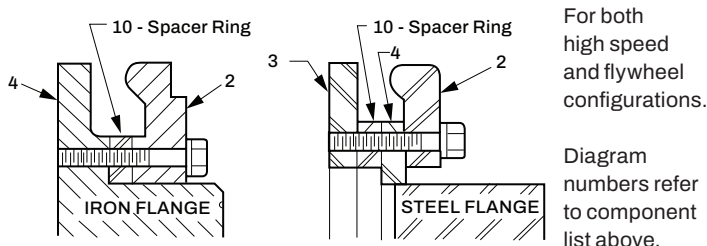

Figure 1 - Flange Spacer Ring Location
| (5) Disc Assembly | (10) Flange Spacer Ring (See Fig.1) |
| (4) Flange Assembly | (10) Flange Spacer Ring (See Fig.1) |
- 2. Flange Installation:** Press or shrink straight bored flange assemblies on the shafts. Install Taper-Lock® flanges per instructions packed with the bushings. Taper-Lock® flanges on coupling sizes 87 thru 131 are reversible to permit locating bushing screws on the inside or outside of the coupling as desired or convenient. Note: The PX140 flange assembly (used on the 172 coupling) requires a flange spacer ring which must be installed before mounting flange assembly on the shaft. On models with iron flanges the spacer ring is installed between the flange assembly and external clamp ring, and on models with steel flanges it is installed between the flange assembly and internal clamp ring. See Figure 1.